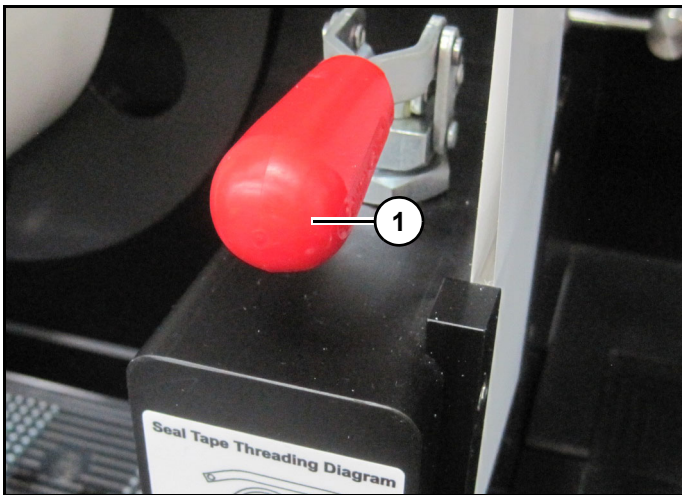

Figure 10
12. When seal is needed, push nip roller lever (1) (Figure 10) to clamped position.